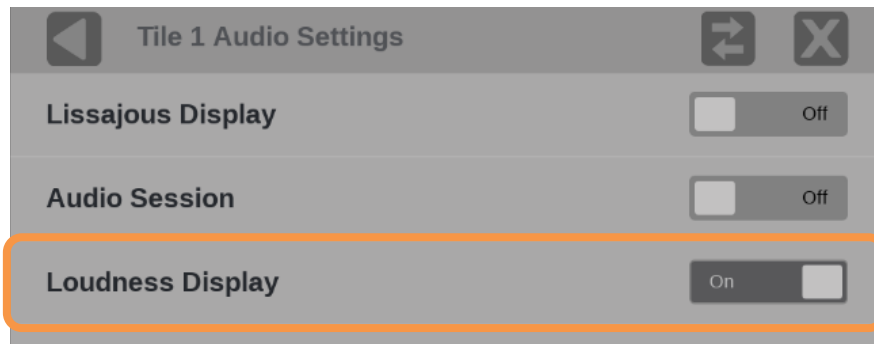

Figure 49: Audio Settings with the Loudness Display enabled
4. Set Loudness Display to **On**. (See Figure 49.)